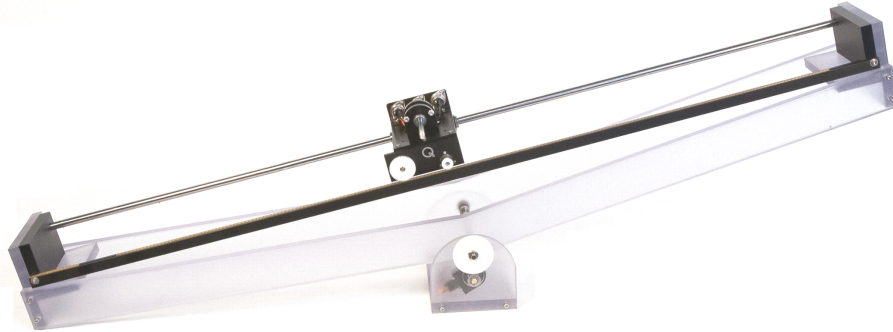

Figure 4.1: Configuration of the IP02 and SEESAW-E System
Figure 4.1, below, illustrates an IP02 cart-and-rack system mounted on top of a SEESAW-E, in the default configuration, and this is the configuration used in the SEESAW-E laboratory
**Note:** The default configuration consists of the cart without its additional weight on it. Also the pendulum rod itself is not used and should be removed. Lastly, the IP02 rack should be located on top of the SEESAW-E in such a way that all the system's pinions face the same side, as shown in Figure 4.1
4. Place the IP02 cart and rack system on top of your SEESAW-E module. Make sure to locate the rack in such a way that IP02 cart pinions are on the same side as the SEESAW-E gears, as shown in Figure 4.1. Turn the rack around if necessary.